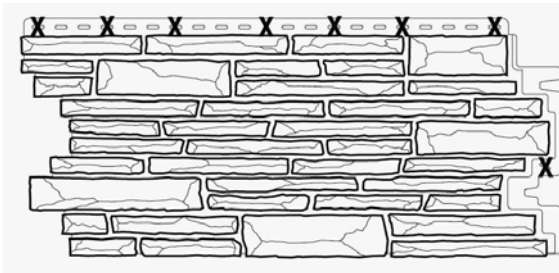

Figure 4
STEP FIVE Drive a fastener straight through the substrate while ensuring that the head only makes light contact with the panel. This allows the panel to move with varying temperatures. The panel requires a minimum of eight (8) fasteners per panel (figure 4). For high velocity wind areas, a fastener is required in each nailing slot.